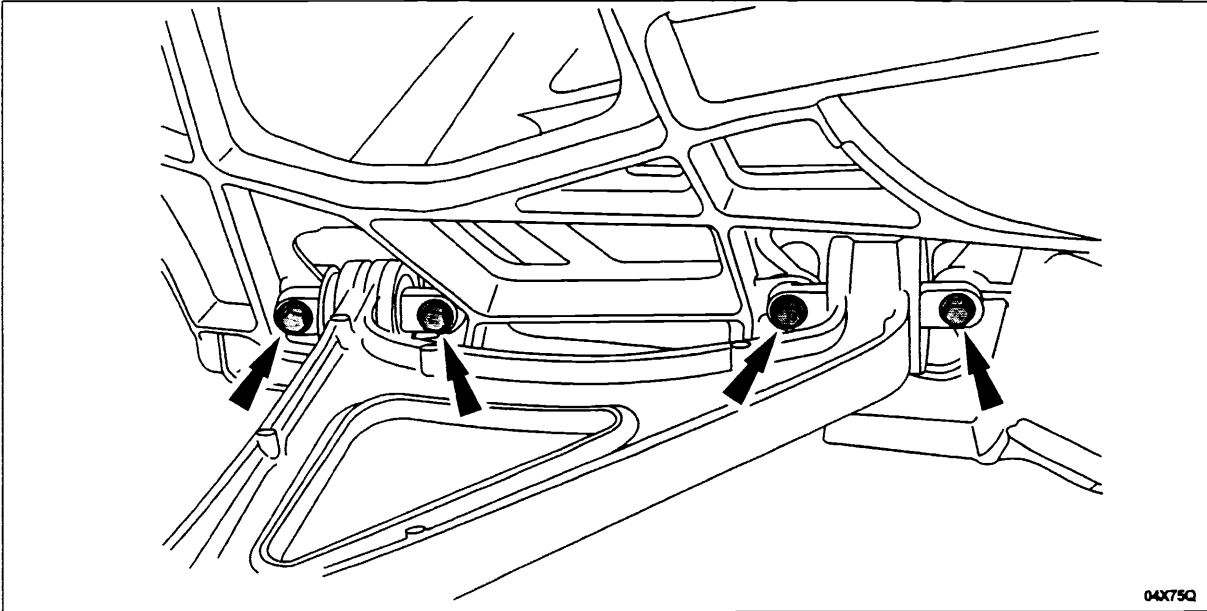

FIGURE 17
15. Release the arm and remove the two (2) outer lower control arm-to-frame bolts and washers, then remove the control arm from the vehicle. See Figure 17.